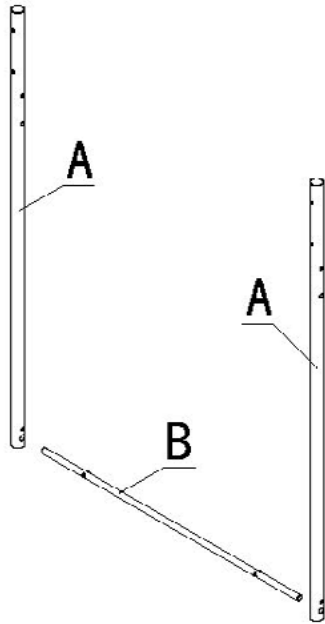

FIG. 1.
Step 1. Insert the Vertical Straight Tube (A) into the Axle (B) See FIG. 1.